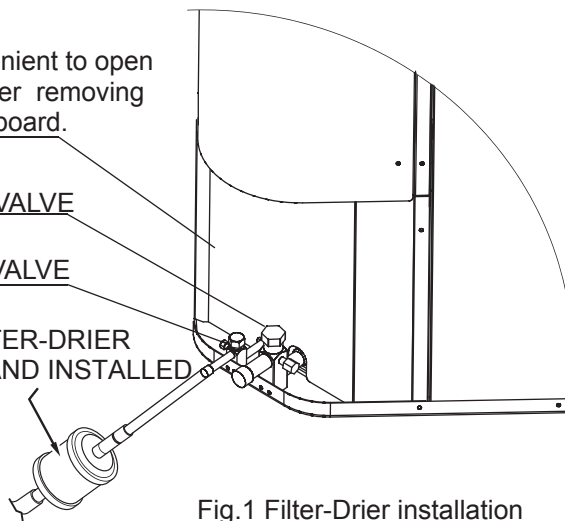

Fig.1 Filter-Drier installation
- A liquid-line filter drier is required on every unit. see the Fig.1